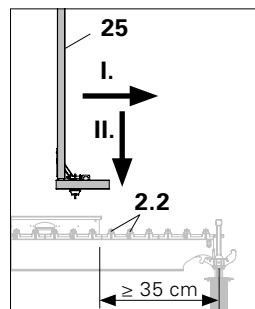

Fig. A8.04a
A free length of at least 35 cm must be available on the main beam in order to be able to mount a Handrail Unit SD. (Fig. A8.04a)
2. Move the Handrail Unit SD (25) firstly in the direction of the building edge (I.) and then downwards (II.) (Fig. A8.04a)